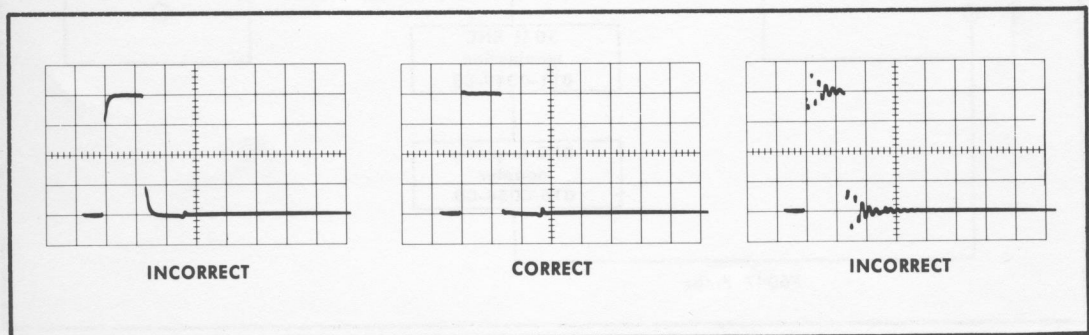

Fig. 4-2. High Frequency Calibration.
d. Using a non-conducting screwdriver, adjust R4, R7, R9, and C5 for the best flat-top and leading edge on the waveform. See Fig. 4-2.